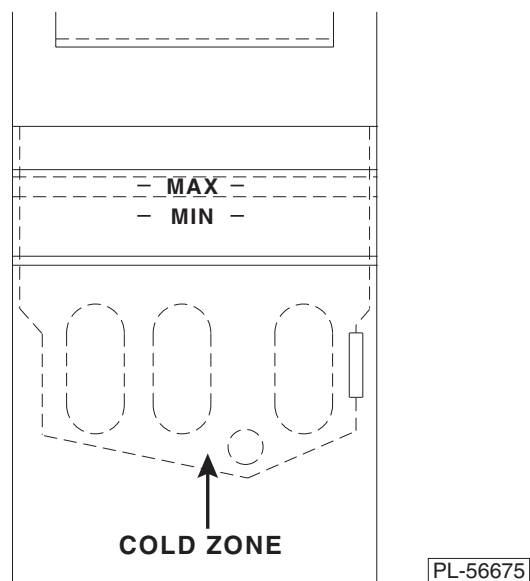

Fig. 7
- A cold fryer will not drain properly. Always filter shortening in a liquid state. The shortening under the cold zone area will remain hard, even if the heat is on for a few minutes. If necessary, use the clean-out rod to carefully stir the hard shortening to an area above the cold zone where it will melt (Fig. 7).